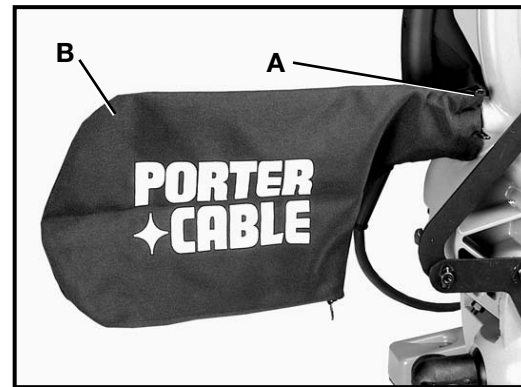

Fig. 8
Depress spring clips (A) Fig. 8, of dust bag (B) and clip dust bag (B) onto end of dust chute.